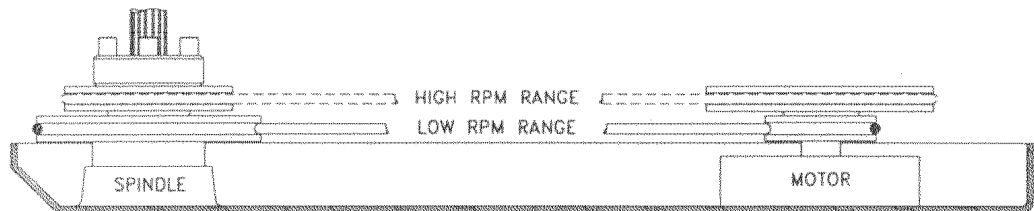

Figure 4. Spindle drive belt positions.
The spindle drive belt is Servo part #02800 and is (2) on figure 4. It is an O-ring type belt. A spare is included with the shipment.